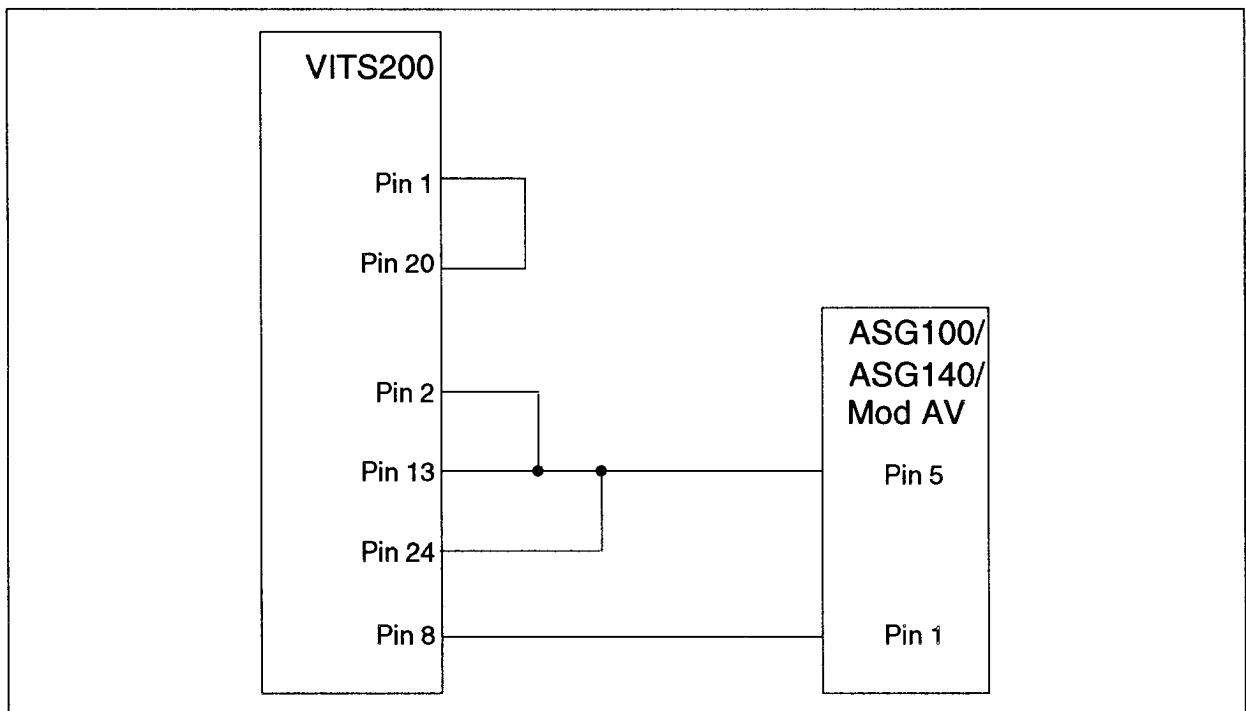

Figure D-2. Cabling between the VITS200 and the ASG 100/ASG 140.
4. Connect a special cable between the VITS200 remote connector and the ASG 100/ASG 140 remote connector as shown in Figure D-2.